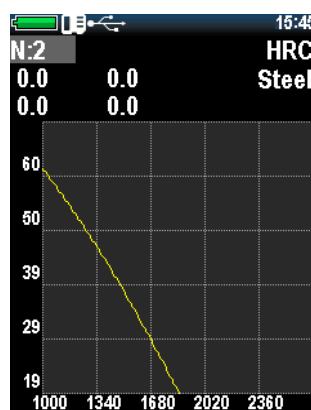

Figure 2.36 – Two points calibration
4. Press <  > key to select the number of the calibration points. If there are two samples, user must select 2 using the keys <  > and <  >, to confirm press <  > (Figure 2.36).